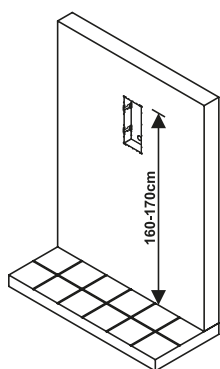

Fig. 57
1. It is recommended that the flush box (C) is mounted into the wall approximately 165-170cm between the top of the box and the floor level as shown in **Fig.57**.